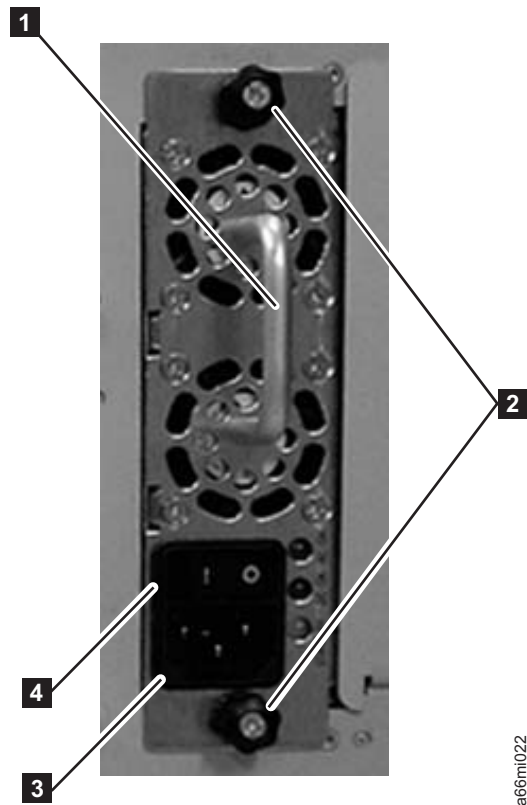

Figure 8-42. Power Supply
Attention: First, disconnect the power cord from the power source. Then, disconnect the power cord from the power supply receptacle (**3** in Figure 8-42).
3. Loosen the two thumb screws (**2** in Figure 8-42) by turning them counterclockwise.
4. Grasp the handle (**1** in Figure 8-42) and slowly pull the power supply toward you, while supporting it from underneath.
2. Grasp the power supply handle (**1** in Figure 8-42) while supporting it from underneath. Then, line up the power supply with the guides in the slot, and carefully push the power supply into the library.
3. Tighten the two thumb screws (**2** in Figure 8-42) on the power supply by turning them clockwise.
Attention: First, connect the power cord to the power supply component (**3** in Figure 8-42 on page 8-45). Then, connect the power cord to the power source.
5. Toggle the power switch (**4** in Figure 8-42 on page 8-45) on the power supply to the I (ON) position.
2. Toggle the redundant power supply power switch (**4** in Figure 8-42 on page 8-45) to the O (OFF) position.
3. Unplug the power cord from the redundant power supply receptacle (**3** in Figure 8-42 on page 8-45).
4. Loosen the two thumb screws (**2** in Figure 8-42 on page 8-45) by turning them counterclockwise.
5. Grasp the handle (**1** in Figure 8-42 on page 8-45) and pull the power supply toward you. Support the component from underneath with your other hand.
3. Insert the redundant power supply by gripping the handle (**1** in Figure 8-42 on page 8-45), sliding it into the guide slots, and pushing it into the empty slot.
4. Tighten the two thumb screws (**2** in Figure 8-42 on page 8-45) that hold the redundant power supply in place.
5. Connect the power cord to the power supply (**3** in Figure 8-42 on page 8-45) and to its source.
6. Turn ON power to the redundant power supply, using the switch (**4** in Figure 8-42 on page 8-45) on the power supply.